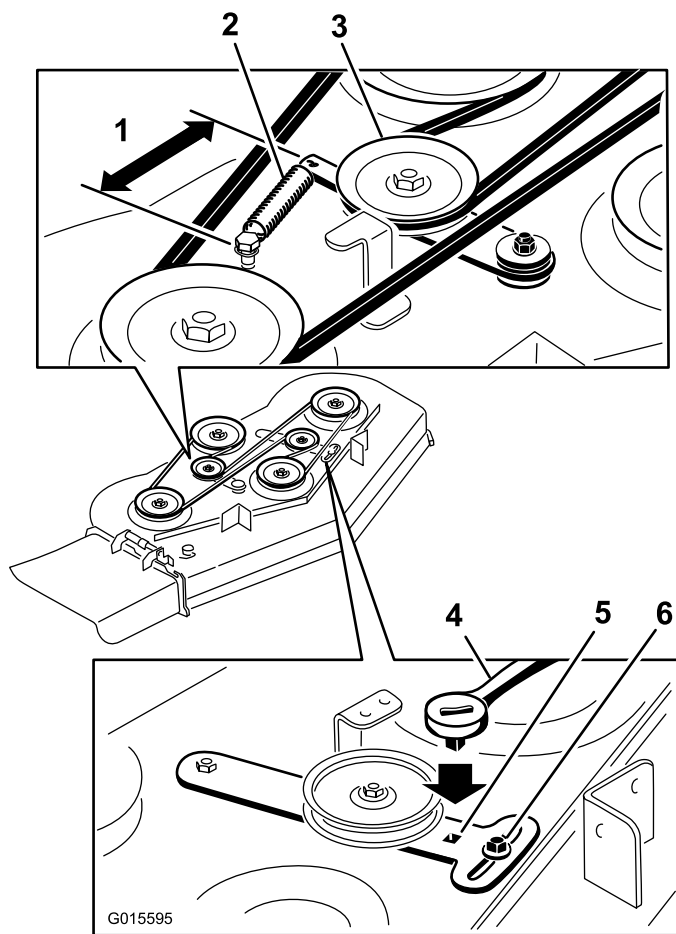
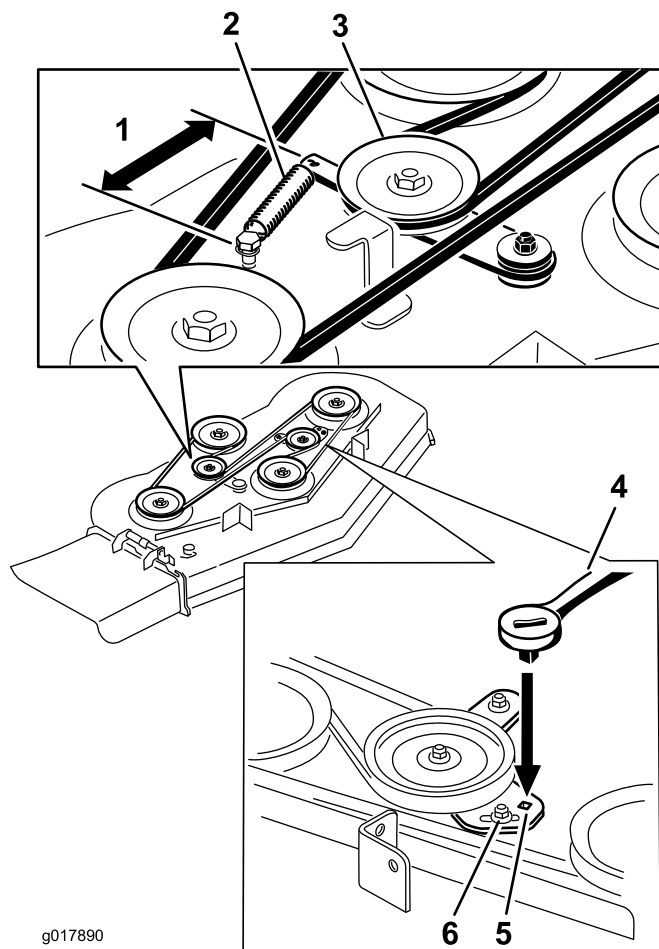

Figure 68
Figure 69
5. Remove the worn mower belt (Figure 68 and Figure 69).
6. Install the new mower belt around the deck pulleys and clutch pulley (Figure 68 and Figure 69).
7. Using a ratchet in the idler arm, tighten the idler pulley until the spring is stretched 6-1/2 inches (165 mm) from hook to hook (Figure 68 and Figure 69).